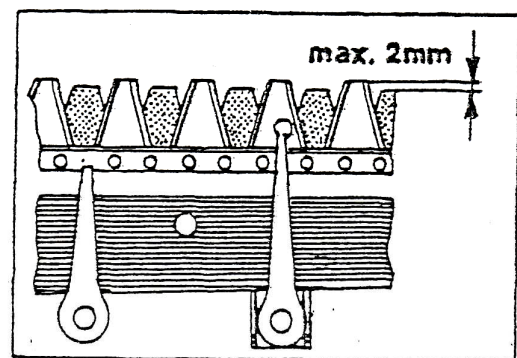

Figure 20
- Upper cutting blades should match the lower cutting blades. If these stand two millimeters across the lower blades (Figure 20), the upper handles must be transposed as given in paragraph D.